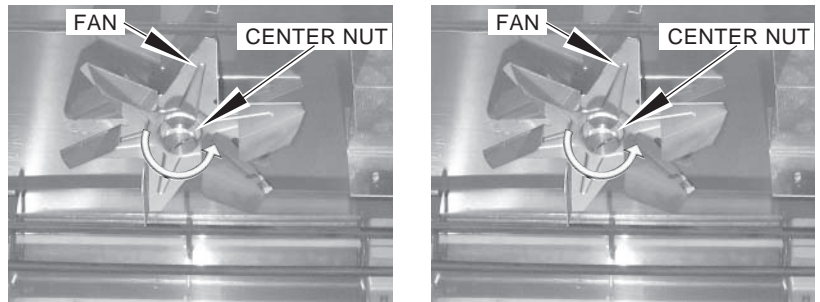

Fig. 54
9. After cleaning, reinstall 2 fan blades: Mate D-shaped hole on fan onto D-shaped shaft; then tighten nut (counterclockwise) (Fig. 54).